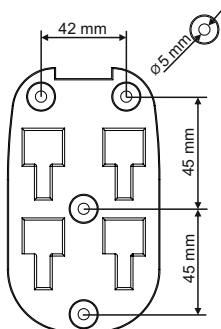

figure 1
Use the wall mounting part (1) to mark the fixing points on the wall. Take into account the dimensions between holes and the diameters marked in figure 1.